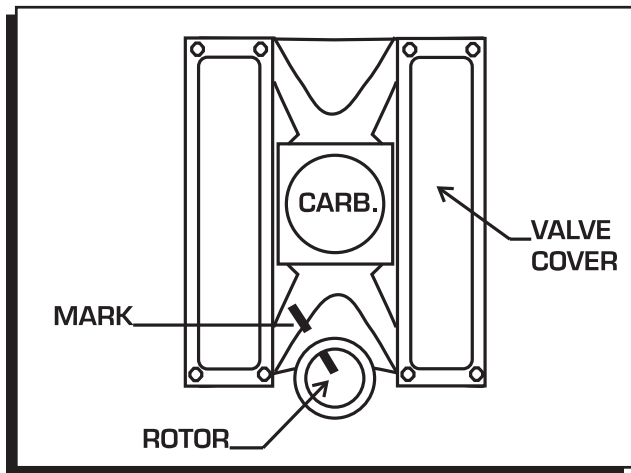

Figure 2 Marking the Rotor Location.
2. With the cap off, crank the engine until the rotor is aimed at a fixed point on the engine or firewall. Note this position by making a mark (Figure 2).